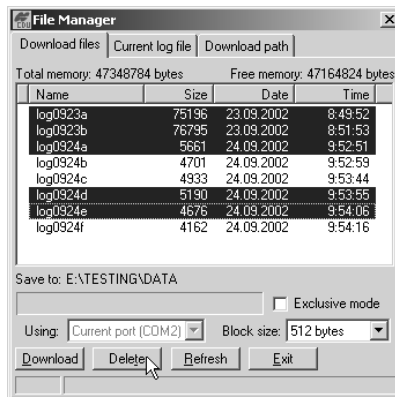

Figure 4-8. Delete Files
3. Click **File ► File Manager** and select the file(s) to delete on the *Download files* tab (Figure 4-8).
4. Click **Delete** (Figure 4-8 on page 4-13).